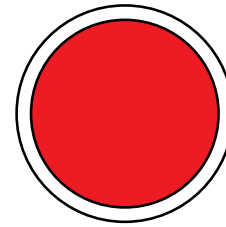

Figure 82. Circuit Breaker OFF Button (ON/RED)
1. Make sure the **Circuit Breaker OFF** button LED is **ON (red)**. See Figure 82. **DO NOT** load the generator during forced regeneration.